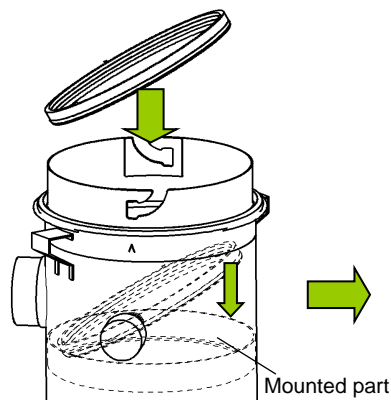

Fig. 6-1. Holder assembly replacement
- ① Remove old holder assembly
- ② Put the new holder assembly in the case with the holder slanted. (Fig. 6-1)